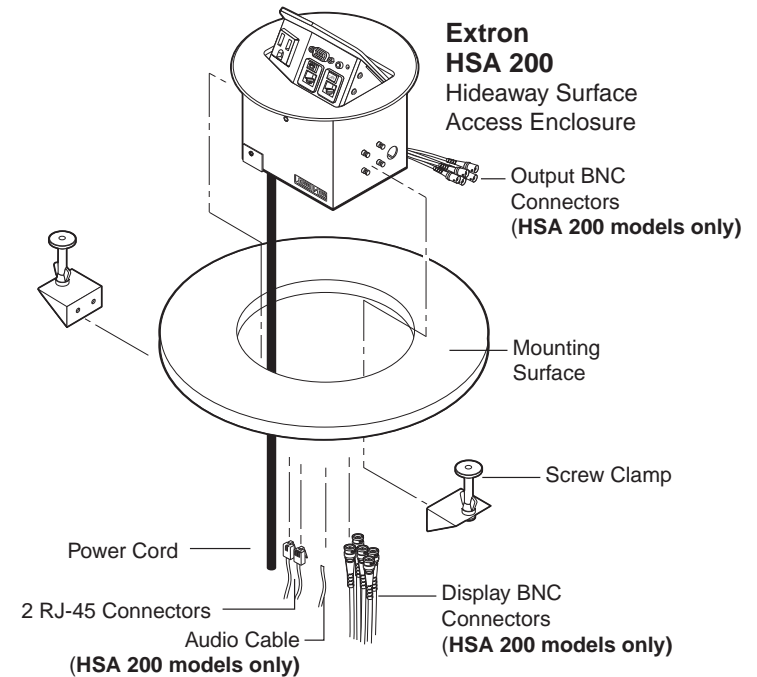

Figure 2-4 — Mounting the HSA 200 or HSA 222 enclosure
4. From the underside of the table, reinstall the screw clamps on the enclosure at a height at which the clamp will reach the underside of the tabletop (figure 2-4).
NOTE *Figure 2-4 shows an HSA 200 installation. Except for the video and audio connectors, the HSA 222 installation is identical.*